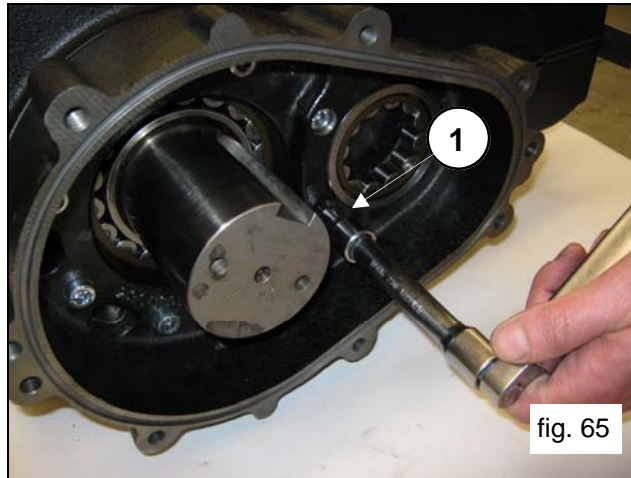

fig. 65
Tighten the 8 M10x40 screws (pos.①, fig.65).